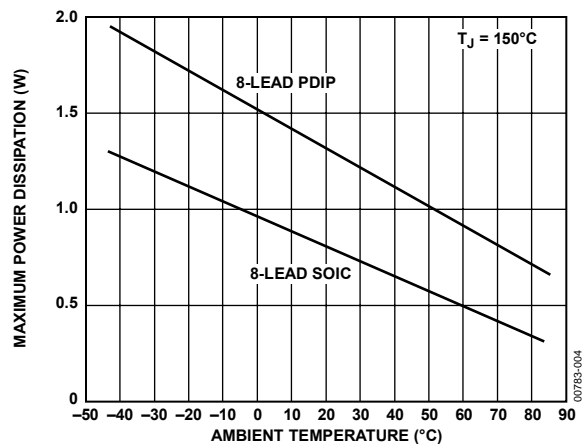

Figure 4. Maximum Power Dissipation vs. Temperature for SOIC and PDIP
8-Lead PDIP (N)	See Figure 4
8-Lead SOIC (R)	See Figure 4